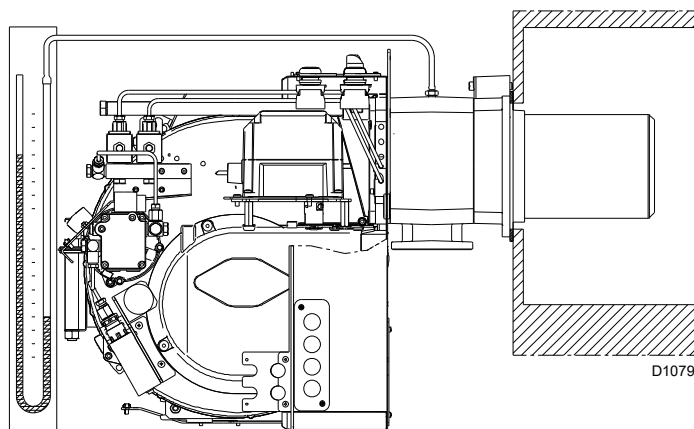

Fig. 35
- Purge the air from the gas line. Fit a U-type manometer (Fig. 35) to the gas pressure test point on the sleeve. The manometer readings are used to calculate the high fire burner firing rate using the tables on Tab. K at page 27.